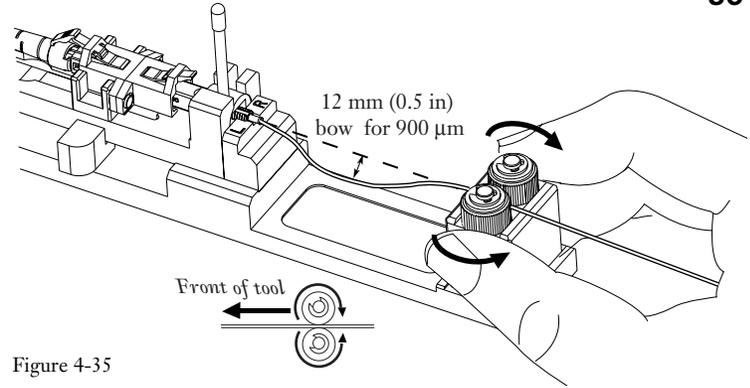

Figure 4-35
**4.8-3 For installations on 900 $\mu$ m fiber** –lightly pinch the index rollers on the fiber, and slowly rotate the rollers until a 12 mm (0.5 in.) bow forms in the fiber between the connector and the index rollers (Figure 4-35).